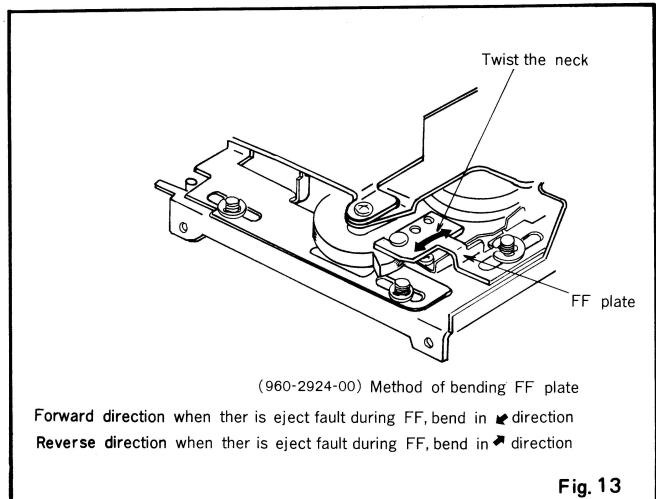

Fig. 13
9. Method of Adjusting FF plate (See Fig.13)